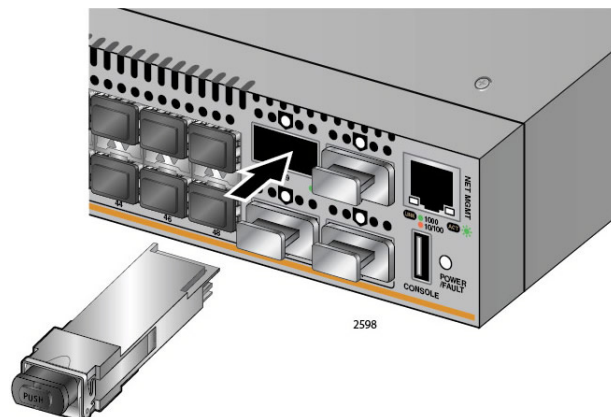

Figure 38. Installing a QSFP+ Transceiver
4. Slide the module into the slot until it clicks into place. See Figure 38.